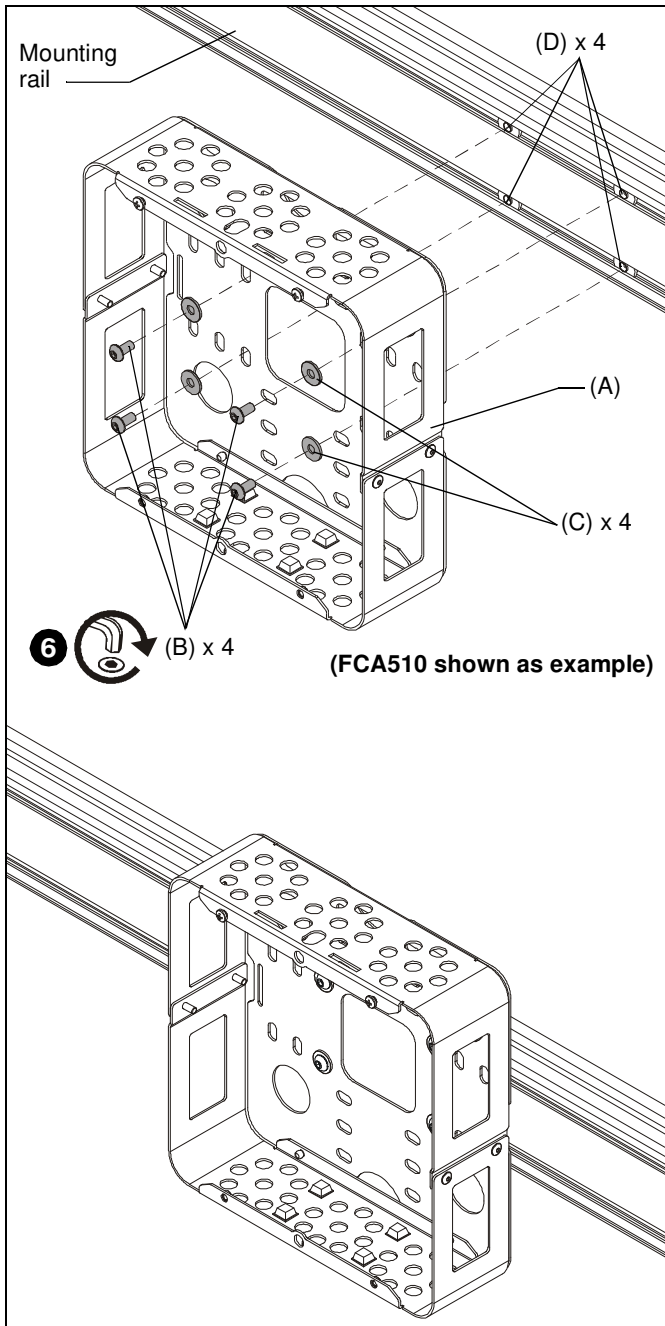

Figure 5
6. Attach FCA510/FCA515 (A) to T-slot nuts (D) using four 5/16-18 x 1/2" button head screws (B) and four 5/16" flat washers (C) into installed T-slot nuts (D). (See Figure 5)